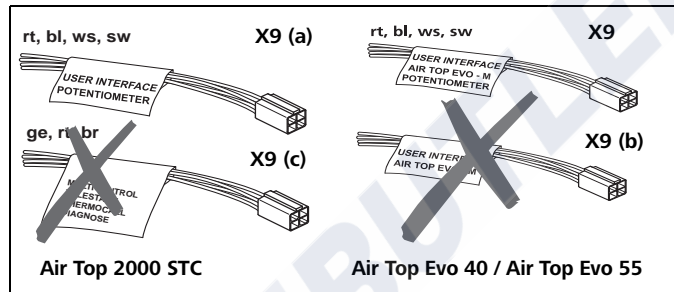

Fig. 42 Wiring of rotary switch
Connector X9(c) is required to connect an optional control element or the Webasto Thermo Test PC diagnostics. See Fig. 42 and wiring diagram.
See Fig. 42 and wiring diagram.
- See Fig. 42 (connector X9a and X9b), as well as Fig. 45.